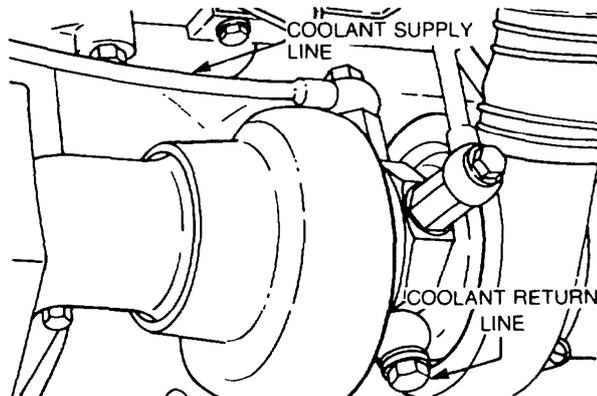

Figure 46 Coolant Supply and Return Lines Removal
- e. Disconnect the coolant supply line and the coolant return line from the turbocharger (Figure 46).